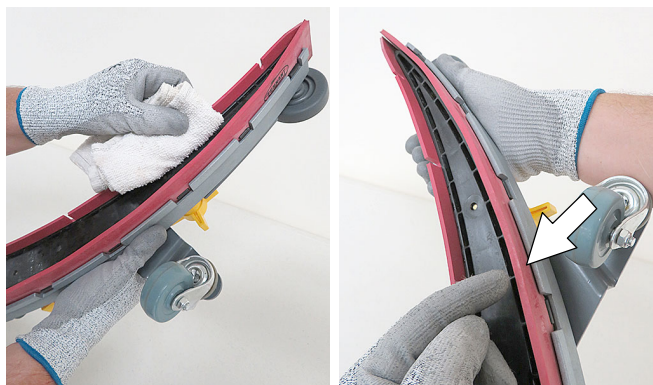

FIG. 99
7. Wipe the squeegee blades clean. Inspect blades for wear and damage (Figure 99). Rotate blade if worn. See SQUEEGEE BLADE REPLACEMENT.